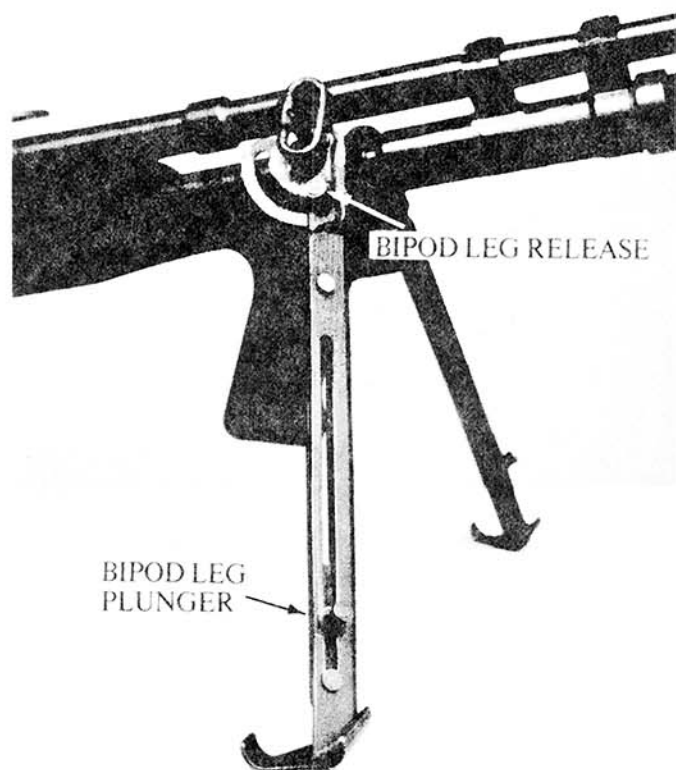

Figure 1-8. — Bipod Legs.
1503. BIPOD LEGS. The bipod legs on the M60E3 are similar to those found on the M249 Squad Automatic Weapon (Figure 1-8).
2. Collapsing the bipod legs on the M60E3 is somewhat different from the M60. The gunner must manipulate a latch (Figure 1-8) in order to collapse the legs. Handling the latch is not difficult since the bipod legs do not heat up as rapidly as they do on the M60.